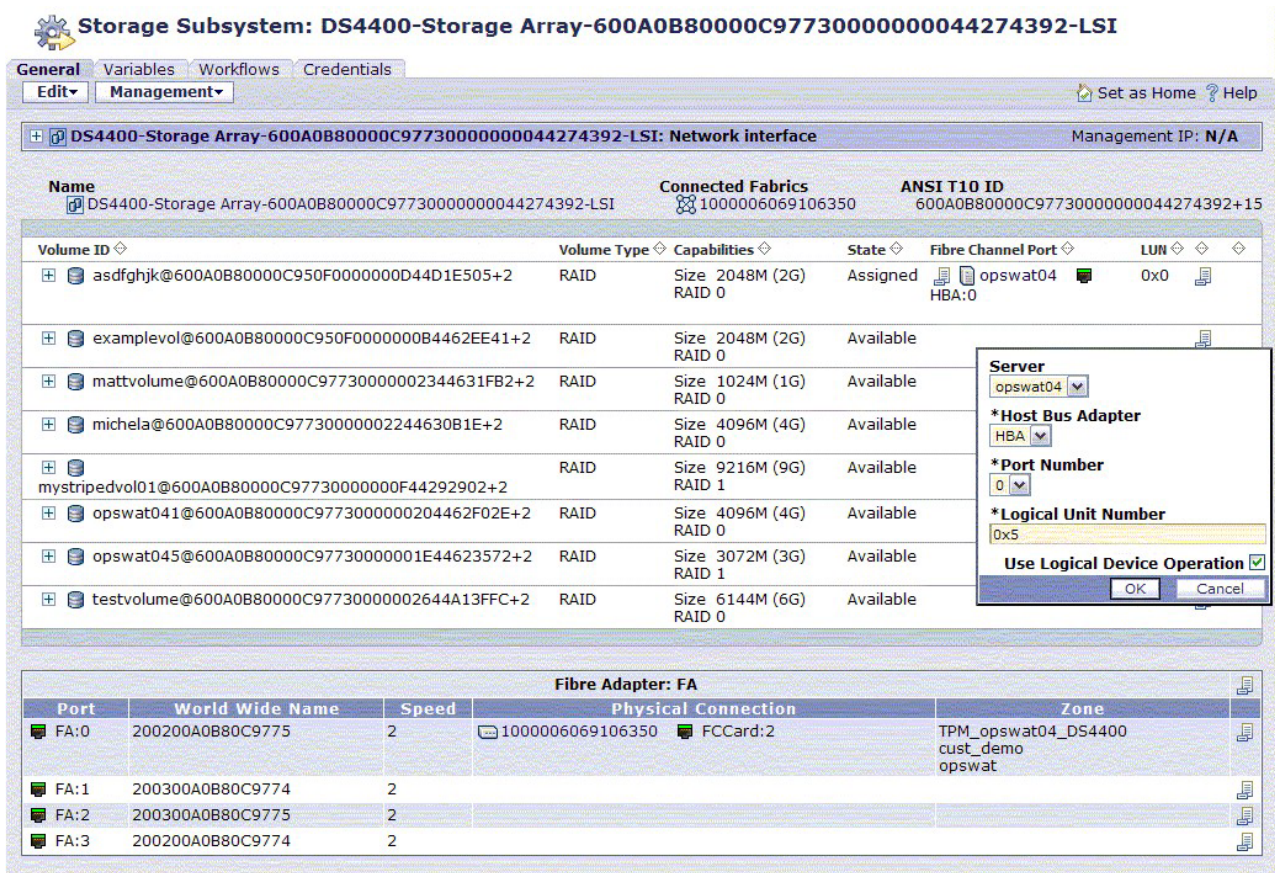

Figure 1. Providing information for logical device operation
5. In the Input Parameter Workflow window, enter the following information. (See Figure 1 on page 22.)